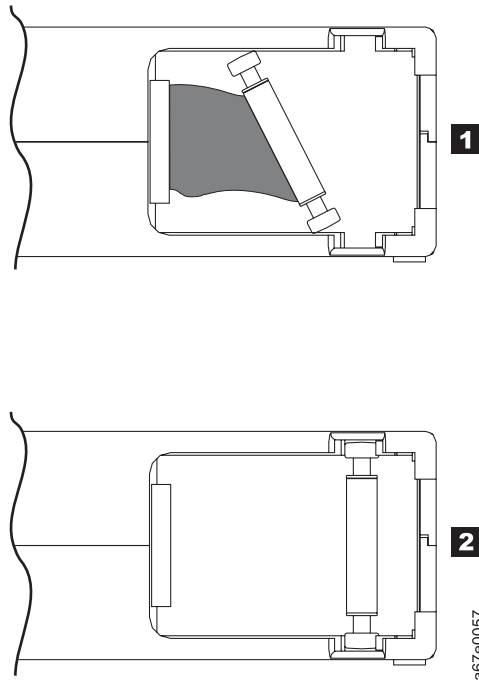

Figure 9-7. Leader pin in the incorrect and correct positions. The cartridge door is open and the leader pin is visible inside the cartridge.
- Do not drop the cartridge. If the cartridge drops, slide the cartridge door back and ensure that the leader pin is properly seated in the pin-retaining spring clips (see **2** in Figure 9-7 on page 9-16). If the leader pin has become dislodged, go to “Repositioning a Leader Pin” on page 9-15.
A leader pin that is improperly seated inside a cartridge can interfere with the operation of the drive. Figure 9-7 on page 9-16 shows a leader pin in the incorrect **1** and correct **2** positions.